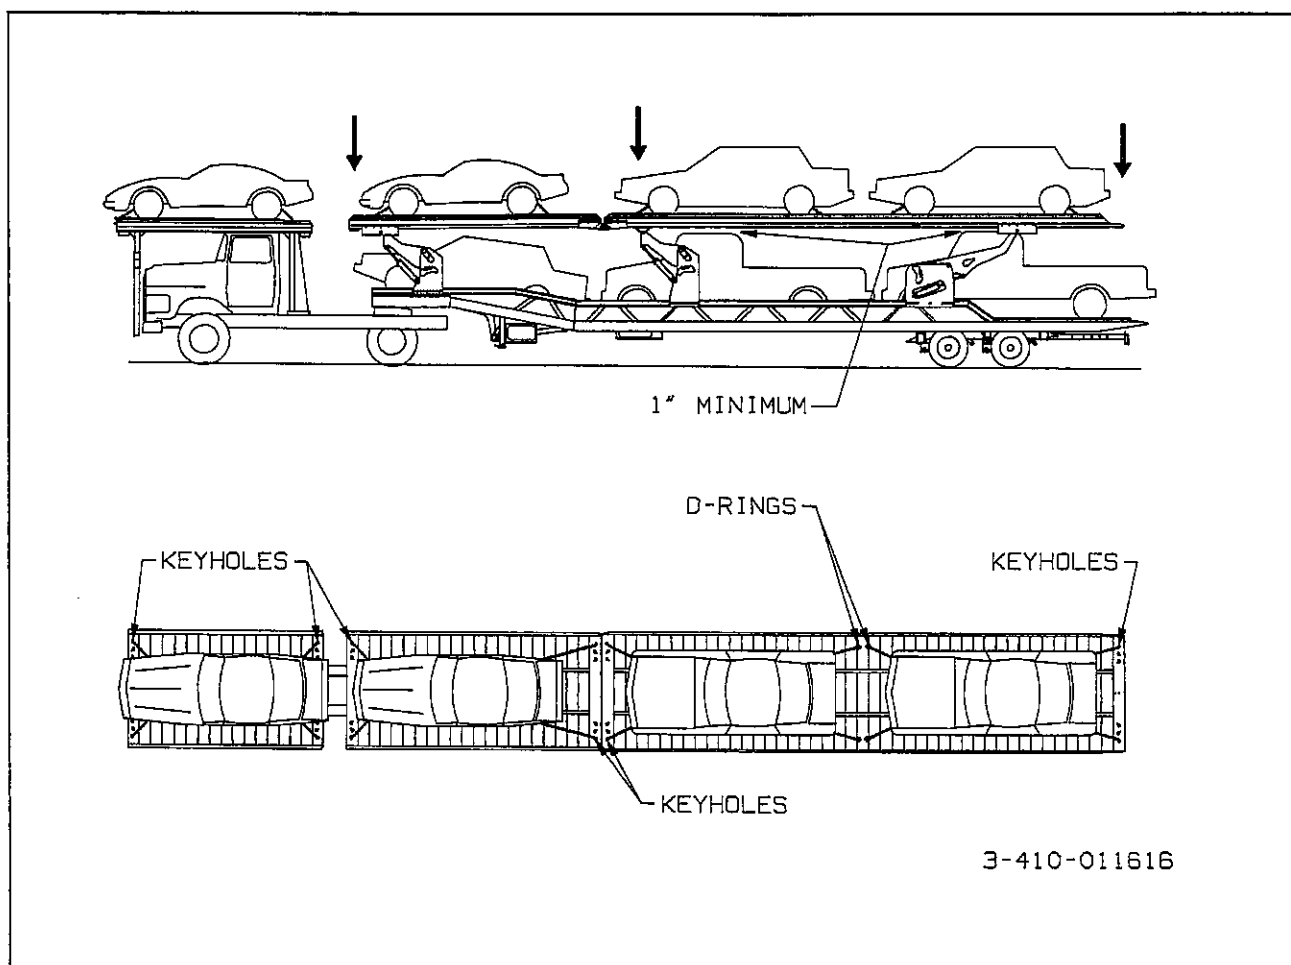

Figure 3-12 Securing the Load
m. Pull the vehicle onto the over-the-cab deck and secure with chains as shown in Figure 3-12 (see paragraph 3-11.7).
h. Lower the arms; front first, then middle, then rear, to allow a minimum clearance of 1" above the vehicles on the lower deck. (See Figure 3-12.)
a. All vehicles must be securely tied front and rear to the deck with 5/16 HI-TEST chain. Key holes are provided in the front and rear of each deck floor to anchor and D-rings are provided in the mid section of each trailer deck for anchoring. (See Figure 3-12.)